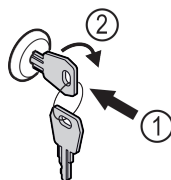

Fig. 207
- ▶ Insert the key. Fig. 207 (1)
- ▶ Turn the key clockwise by 90°. Fig. 207 (2)